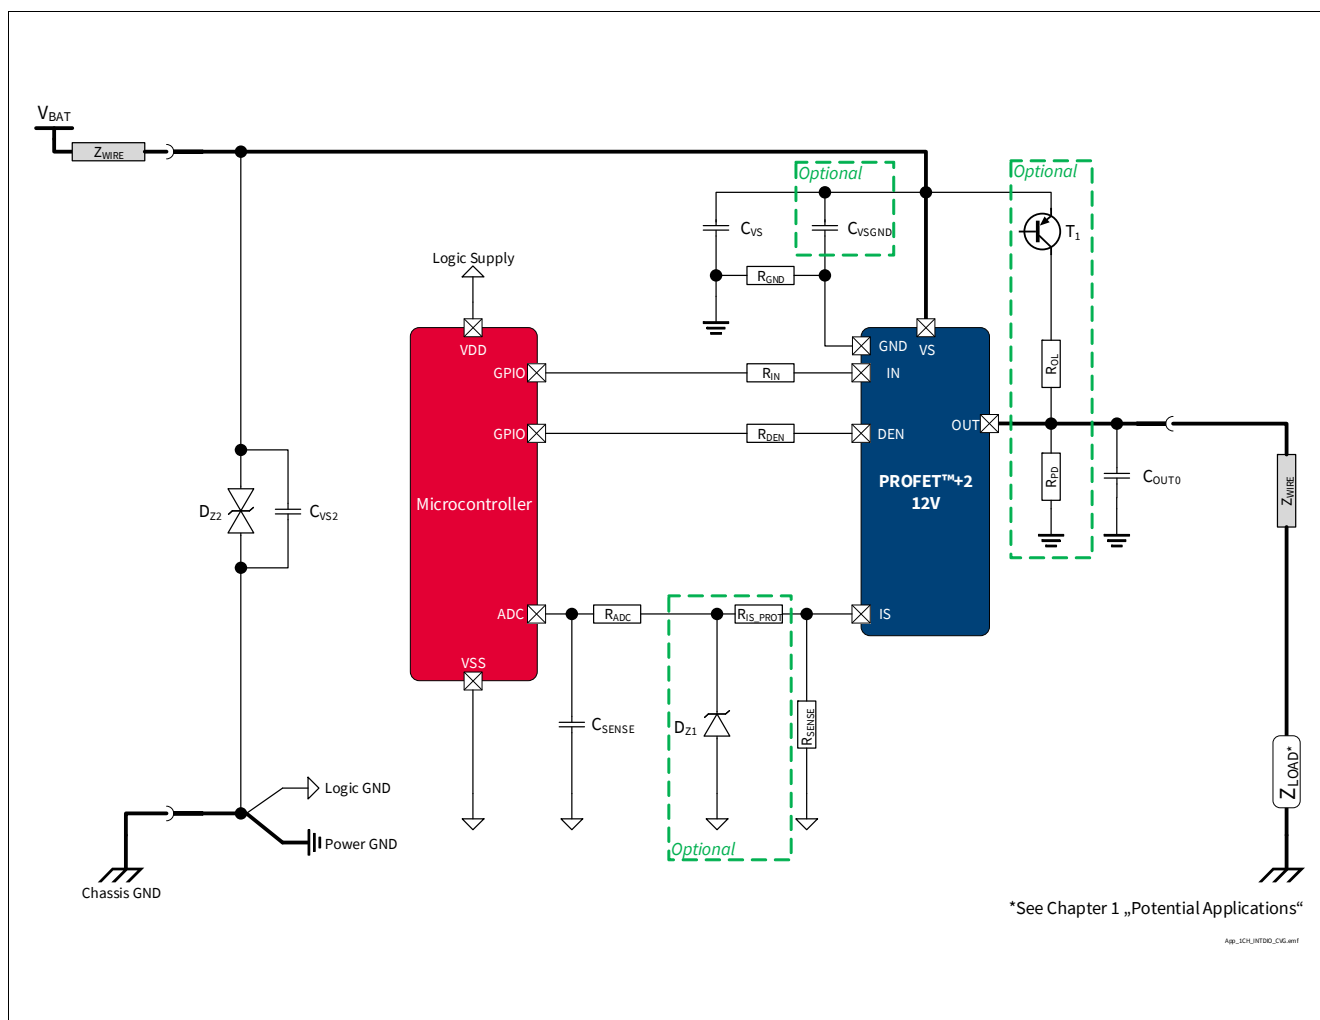
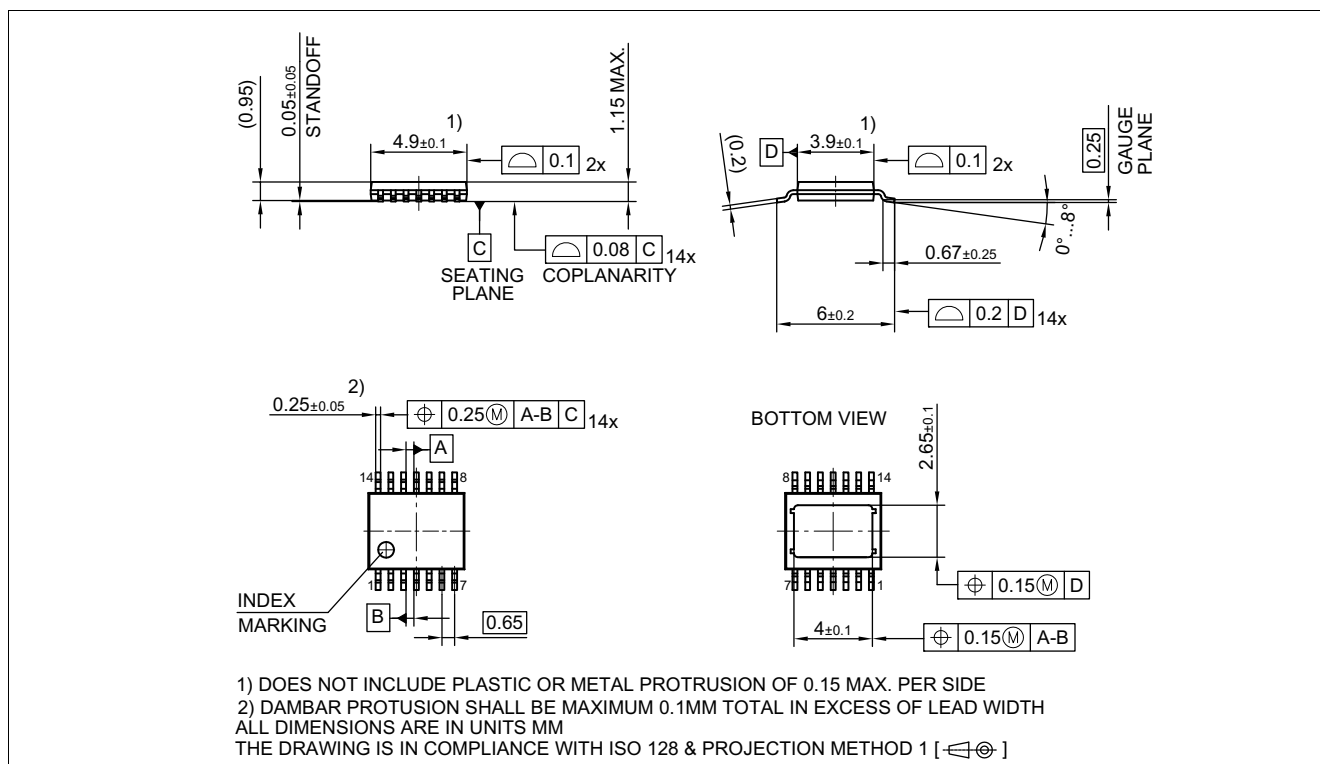
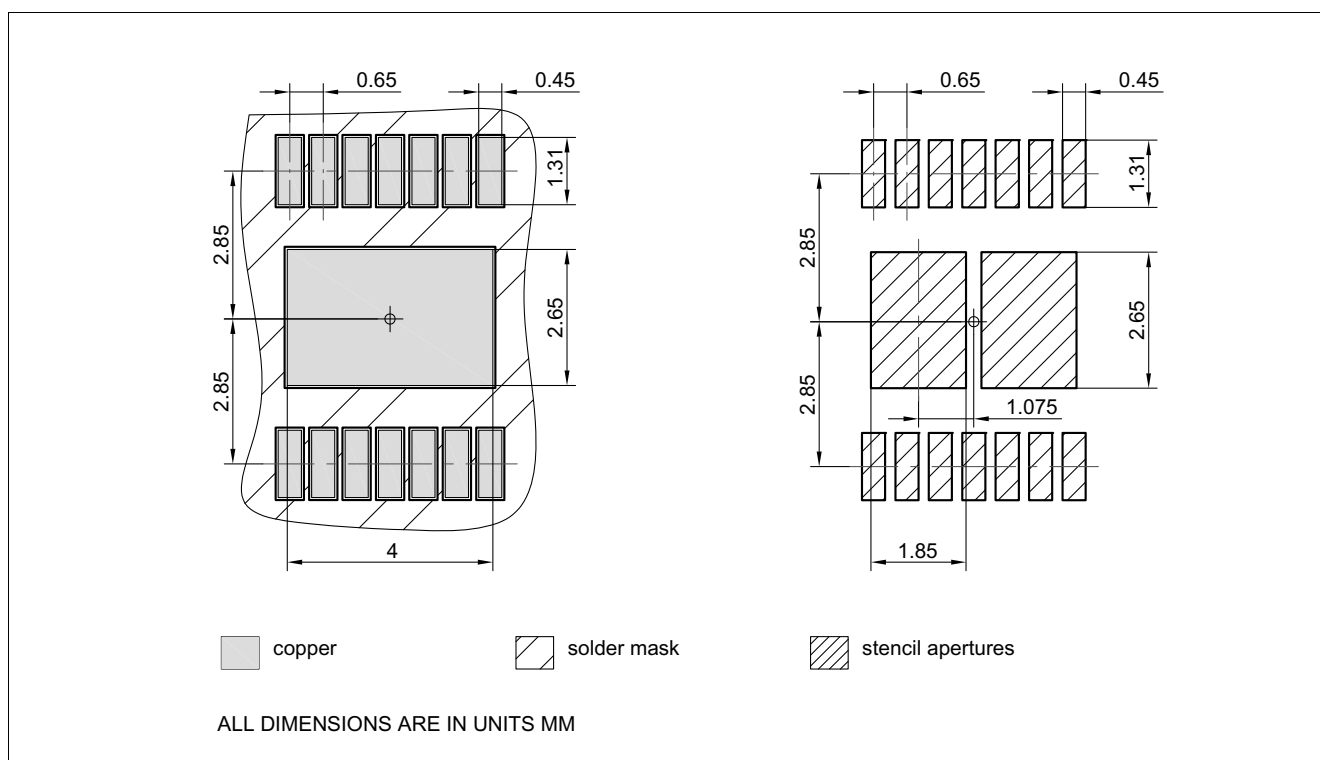

Figure 37 BTS7004-1EPP Application Diagram
Figure 38 PG-TSDSO-14 (Thin (Slim) Dual Small Outline 14 pins) Package Outline
Figure 39 PG-TSDSO-14 (Thin (Slim) Dual Small Outline 14 pins) Package pads and stencil
1.03 , 2019-10-15	P_6.5.21.1 updated (Typ.: 0.01 μA $\rightarrow$ 0.05 μA) P_8.7.11.1, P_8.7.11.7, P_8.7.11.8 updated (added in Note or Test Condition: link to Figure 24) P_7.5.11.5 updated (added in Note or Test Condition: see Figure 18) P_7.5.11.12 updated (added in Note or Test Condition: see Figure 20; deleted unnecessary space in Symbol: $dV_{OUT} / dt \rightarrow dV_{OUT} / dt$) P_8.7.11.6 updated (added in Note or Test Condition: see Figure 25) P_9.7.11.1 updated (added in Note or Test Condition: see Figure 32) Figure 1, Figure 37 updated P_4.3.0.7 added Table 22 updated Chapter 5.1 updated (added: see Chapter 10 for the complete application setup overview)
1.01 , 2019-02-05	Figure 9, Figure 10 updated P_7.5.11.10 updated (Min./Typ./Max.: - / - / 10 μA $\rightarrow$ - / - / 15 μA) Page 1: updated (figure product) Table 22 updated (punctuation) Chapter 9.3, Chapter 9.3.1 updated (typo) Page 1: updated (Package PG-TSDSO-14-22 $\rightarrow$ Package PG-TSDSO-14) Figure 38 updated (PG-TSDSO-14-22 (Thin (Slim) Dual Small Outline 14 pins) Package Outline $\rightarrow$ PG-TSDSO-14 (Thin (Slim) Dual Small Outline 14 pins) Package Outline) Figure 39 updated (PG-TSDSO-14-22 (Thin (Slim) Dual Small Outline 14 pins) Package pads and stencil $\rightarrow$ PG-TSDSO-14 (Thin (Slim) Dual Small Outline 14 pins) Package pads and stencil) Table 1 updated (Parameter: Minimum Overvoltage protection ($T_J = 25^\circ\text{C}$) $\rightarrow$ Minimum Overvoltage protection ($T_J \geq 25^\circ\text{C}$)) Table 1 updated (Symbol: $I_{VS(OFF)} \rightarrow I_{VS(OFF)_{85}}$) P_6.5.21.1 updated (Symbol: $I_{VS(OFF)} \rightarrow I_{VS(OFF)_{85}}$) P_6.5.21.2 updated (Symbol: $I_{VS(OFF)} \rightarrow I_{VS(OFF)_{150}}$) P_4.2.11.3 updated (Note or Test Condition: $\rightarrow$ -) Figure Application Diagram, Figure 29, Figure 37 updated P_4.1.0.21, P_4.1.0.22, P_4.1.0.23, P_4.1.0.24 updated (footnote ESD standards) Table 1 updated ($R_{DS(ON)} \rightarrow R_{DS(ON)_{150}}$, ($V_{DS(CLAMP)} \rightarrow V_{DS(CLAMP)_{25}}$) Chapter 8.5.2 updated (phrasing) Chapter 6.4, Chapter 7.5, Chapter 8.7, Chapter 9.6 updated (added conditions) Figure 28 updated (Over Load $\rightarrow$ Overload, deleted bow) P_9.6.4.8, P_9.6.4.9 updated (removed line before the footnote)